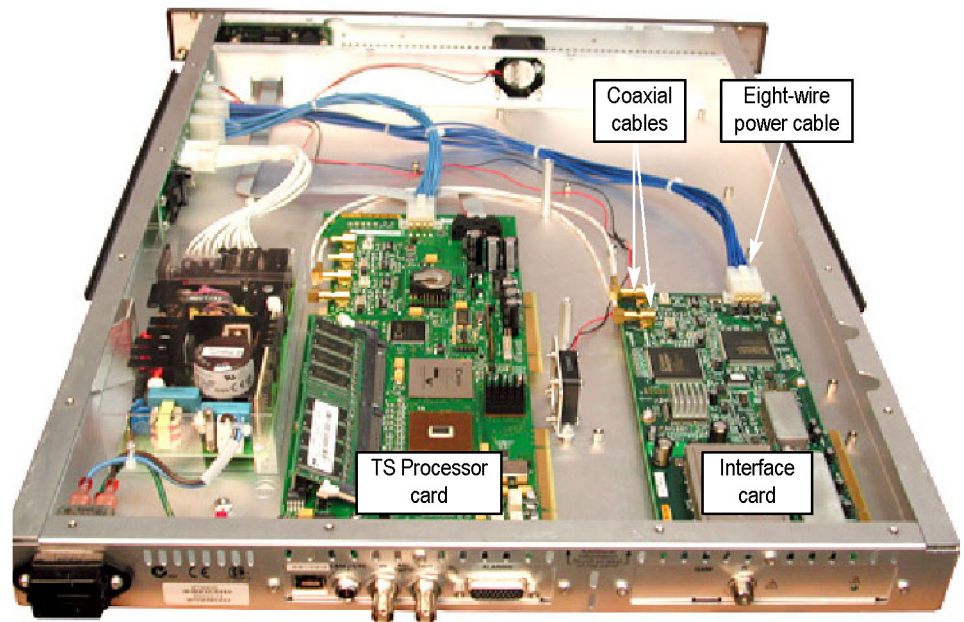
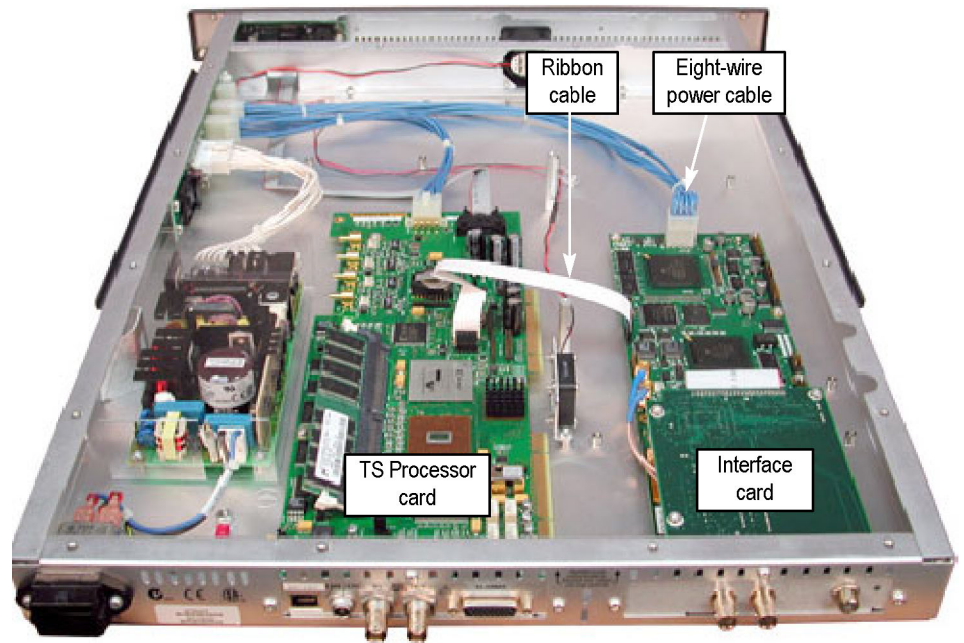
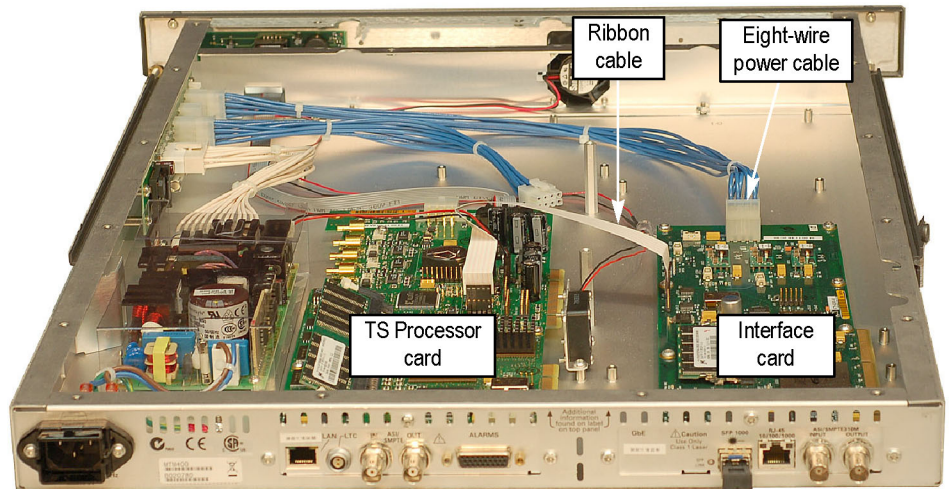

Figure 34: QAM (Annex A), QAM (Annex B1), QAM (Annex C), and QPSK (L-Band, old version) interface card location
Figure 35: QAM (Annex B2), 8PSK/QPSK, DVB-S2, 8VSB, and COFDM interface card location
Figure 36: GbE interface card installation
3. Locate the interface card in your monitor. (See Figure 34.) and (See Figure 35.) The interface card is mounted on the right side of the monitor as viewed from the rear.
5. If your monitor has an interface card already installed, determine which type of card is installed. (See Figure 34.) (See Figure 35.) (See Figure 36.)
CAUTION. To avoid incorrectly installing the interface card, be sure to follow the removal directions for the type of interface card that is installed in your monitor. There are three types of interface cards. Each card type has different cable connections. (See Figure 34.) (See Figure 35.) (See Figure 36.)
- a. Disconnect the two coaxial cables from the SMB connectors labeled I/P and O/P. (See Figure 34.) These are push-fit connectors.
- a. Disconnect the ribbon cable from the connector labeled J14 on the interface card. (See Figure 35.)
- a. Disconnect the ribbon cable from the connector labeled J10 on the interface card. (See Figure 36.)
12. Place the new interface card into the right side of the monitor (as viewed from the rear of the monitor). (See Figure 34.) (See Figure 35.) (See Figure 36.)